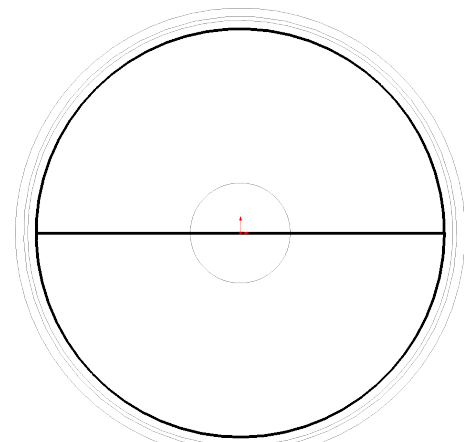

Fig. 22
Step 6. Click **Line**  (L) on the Sketch toolbar.
Step 7. Sketch horizontal line across converted circle through Origin , **Fig. 22**.